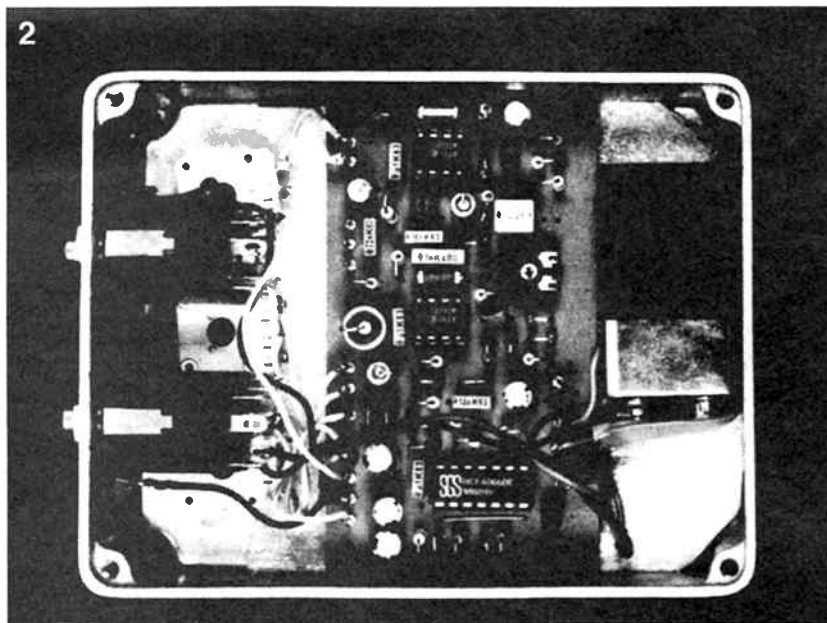

Fig. 2. Internal view of the prototype. The input and output sockets are types with a built-in switch contact.
5. Place the former with the inductors on it onto the PCB, and revolve both L_{1A} and L_{1B} until all six wires can be inserted in the respective holes. Scratch off the enamel coating from the tap and the ends of L_{1A} , pretin, clean again by scratching, and ensure a smooth soldering surface. Press L_{1B} together to lock up the turns of L_{1A} . The final appearance of the completed inductor is shown in the photographs of Fig. 2.
The completed circuit board is best fitted in a sturdy diecast enclosure, as shown in Fig. 2. The foot switch, LED, and COMPRESSION and DISTORTION controls are fitted onto the bottom plate of the enclosure. Sufficient room should be left inside to accommodate the 9 V PP3 battery, which is preferably secured with double-sided adhesive tape.